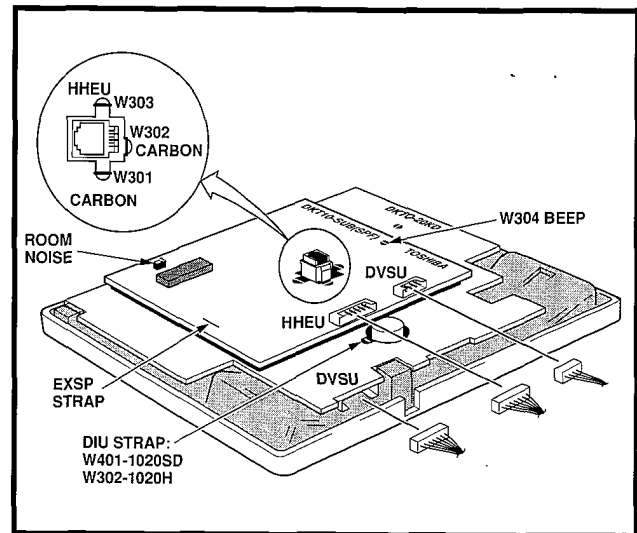

FIGURE 7-11—DIGITAL TELEPHONE PCB CONNECTIONS AND STRAPS
- 6) Connect the HHEU PCB to the telephone's upper PCB (Figure 7-11), labelled DKT10-SUB(SPF).
- 7A) Refer to Figure 7-11, and locate the EXSP, **W305**, strap on the upper PCB, and cut it if an HHEU will be connected to an HESB for the loud ringing bell option.
- 7B) Refer to Figure 7-11, and locate the HHEU strap, **W303**, on the upper PCB, and cut it if an HHEU will be connected to a headset.
- 4) Connect the DVSU wire plugs to the connectors labelled DVSU on both of the telephone's PCBs (Figures 7-11 and 7-12).
- 2) Refer to Figure 7-11, and locate the CARBON straps, **W301** and **W302**, and cut them.
- 2) Refer to Figure 7-11, and locate the BEEP strap, **W304**, on the telephone's upper PCB, labelled DKT10-SUB(SPF), and cut it.
- 2) Refer to Figure 7-11, locate the ROOM NOISE switch on the telephone's upper PCB, labelled DKT10-SUB(SPF), and push it carefully to the high (H) position.